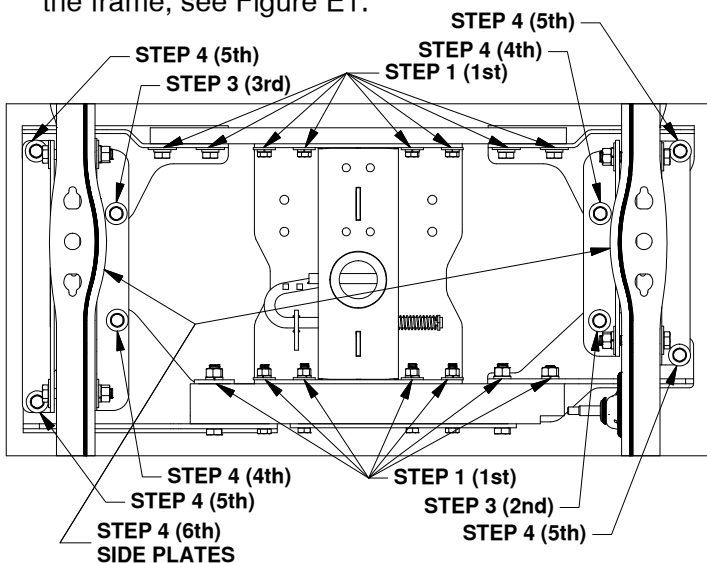

Figure E1: Bottom of truck frame looking up at hitch installation.
- Step 1:** First, tighten the hardware attaching the cross members to the center section and each cross member bracket, see Figure E1
- Step 3:** Tighten the 1/2" x 1-1/2" bolt with the thread locker pre-applied between the passenger front cross member bracket and the passenger inside side plate. Next tighten the 1/2" x 1-1/2" bolt with thread locker between the driver rear cross member bracket and the driver inside side plate, see Figure E1. Examine the 4" hole again to be sure the socket is still centered in the hole.
- Step 4:** Once the hitch is properly located, tighten the remaining two bolts to the inside side plates. Then tighten the bolts with thread locker, that attach the outside side plates and the cross member brackets. Finally tighten the 5/8" bolts holding the side plates to the frame, see Figure E1.